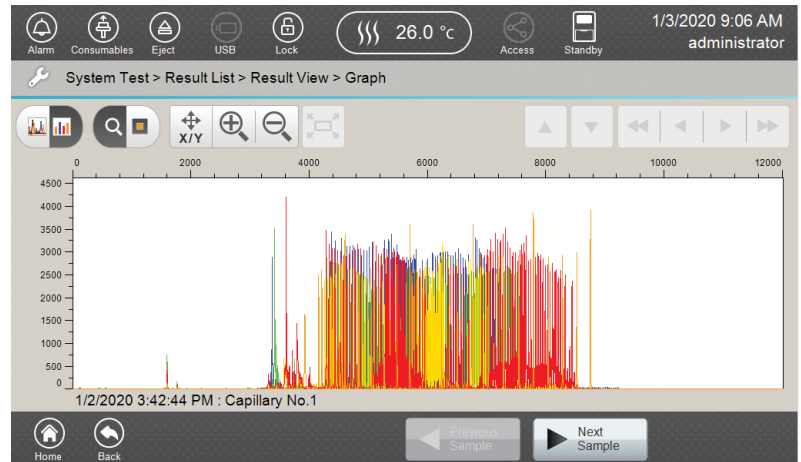

Figure 227. Fragment System Test 'Graph' screen of selected sample.
8. Select **View** in the footer to view the data for that sample in the 'Graph' screen (Figure 227). See 'Results' Tab in Section 5.7, Monitoring a Run, for definitions of the navigation icons on this screen and how to use them.